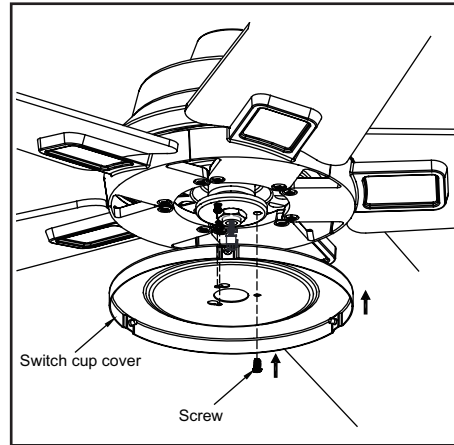

Figure 15
1. Loosen but do not remove two of three mounting screws from the fan motor assembly; Remove one mounting screw. (Figure 15)
2. Push the switch cup cover up to the fan motor assembly so that the two loosened screw heads fit into the keyhole slots. Turn the switch cup cover clockwise, tightened the screws. Re-install the screw that was removed in step 1 and tighten firmly. (Figure 15)